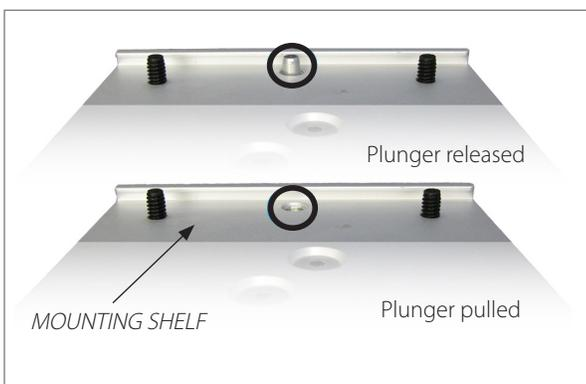

Figure 3
2. Loosen the plastic screws on the bottom side of the *MOUNTING SHELF*. Pull down on the plunger lock at the back of the mounting shelf. Twist to lock open. Slide the adapter laterally onto the *MOUNTING SHELF* until the plunger aligns with the clearance hole at the front of the *MOUNTING ADAPTER* (**Figure 3**).